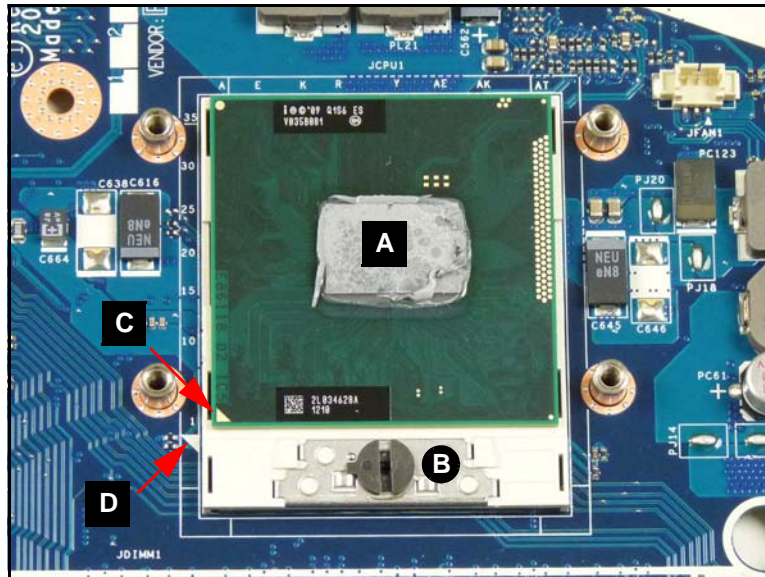

Figure 3-50. CPU in Socket
1. Locate module (A) on mainboard (Figure 3-50).
1. Align CPU marker (C) with socket marker (D) and install CPU in socket (Figure 3-50).
2. Turn screw (B) right 180° to secure module.